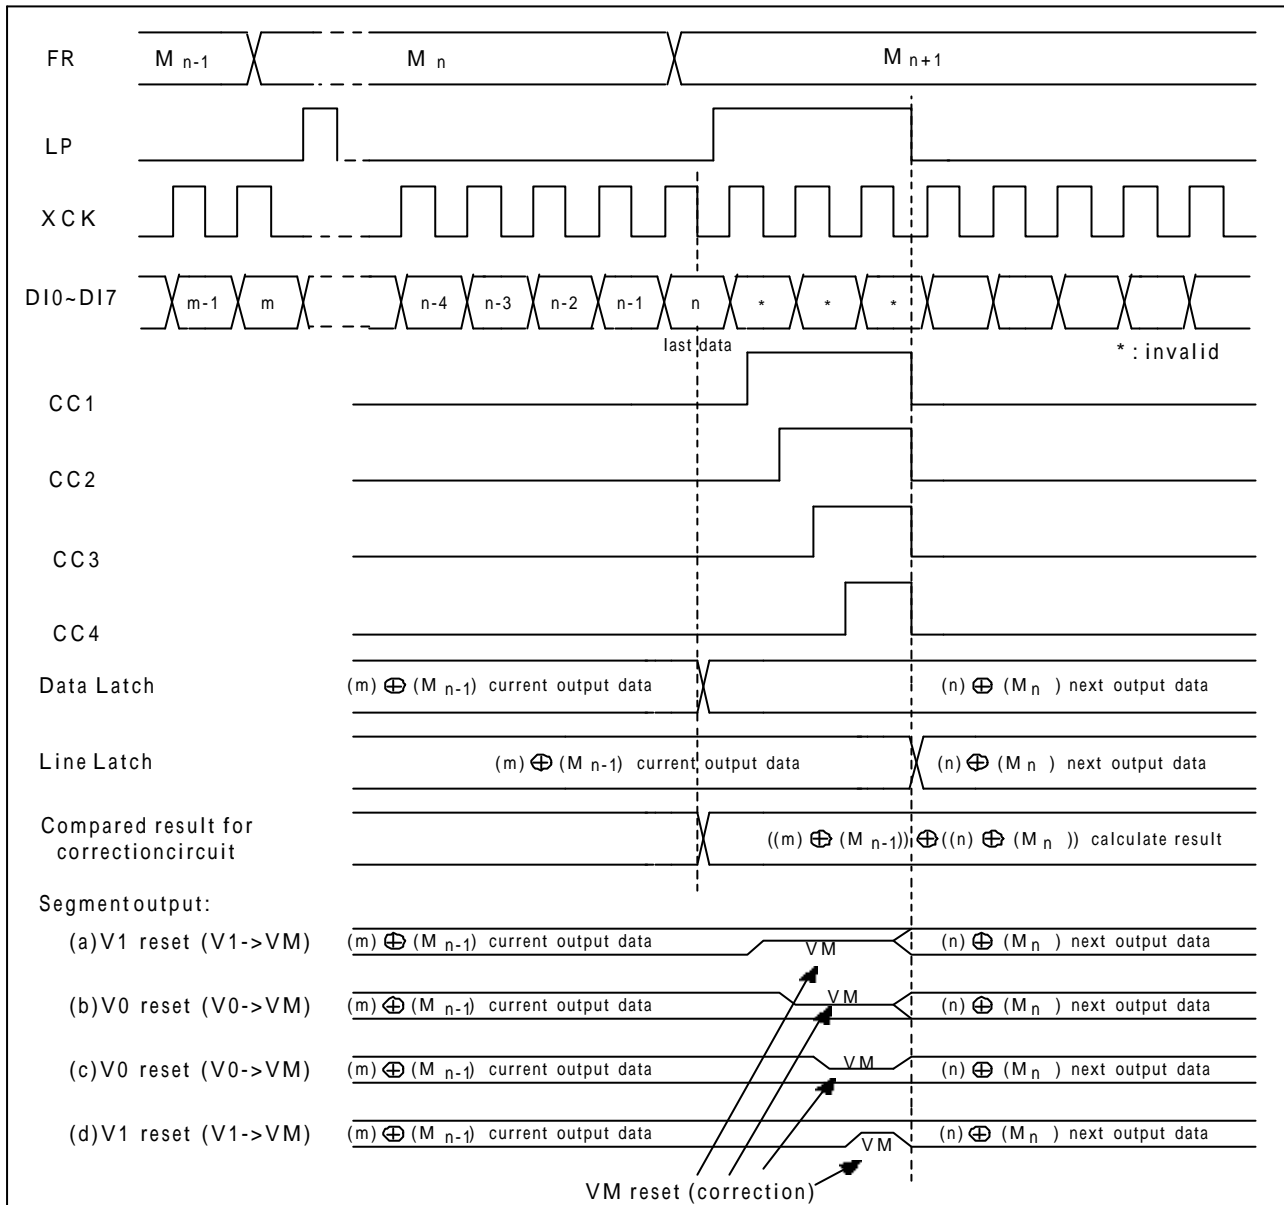

Figure 11. Compared result for correction circuit
2. As show in figure11, user should conform to the following turn on/off sequence for the power and signal. Otherwise, the LSI will malfunction or will be permanently damaged. In addition, the LSI reliability will be affected.